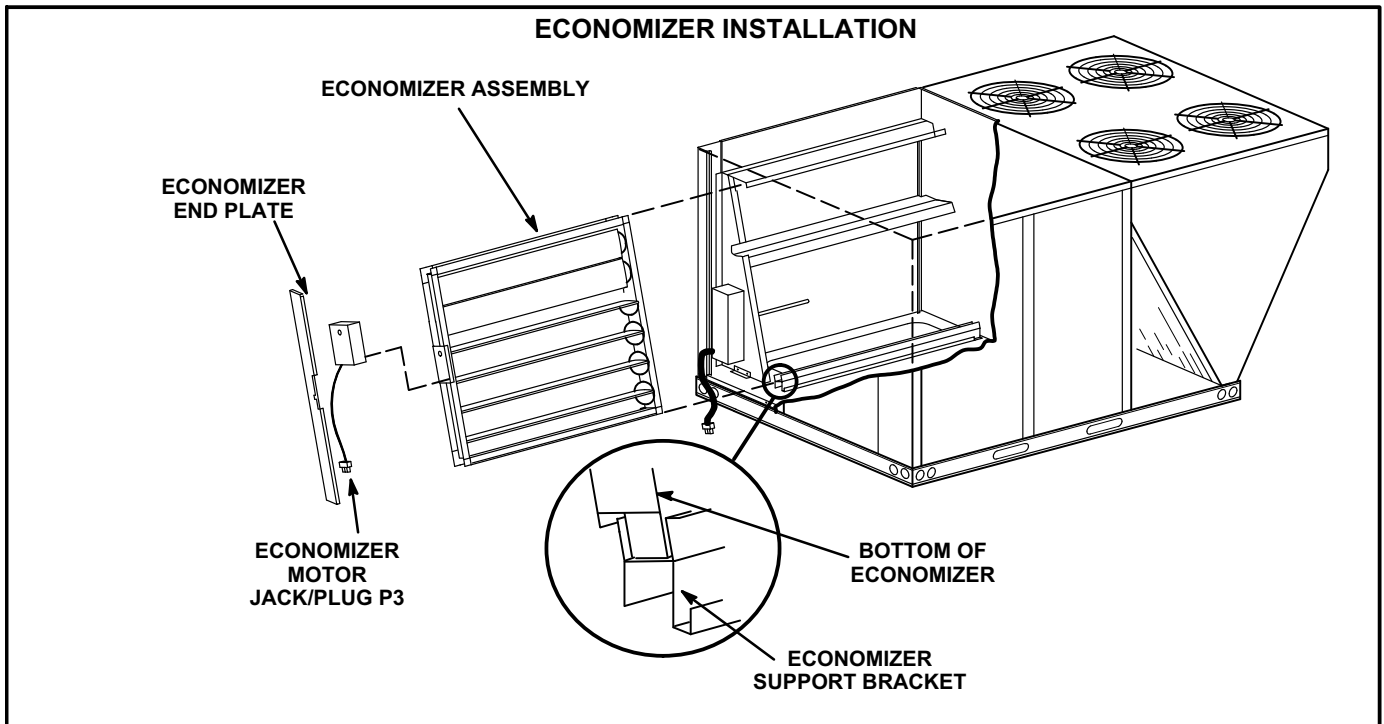
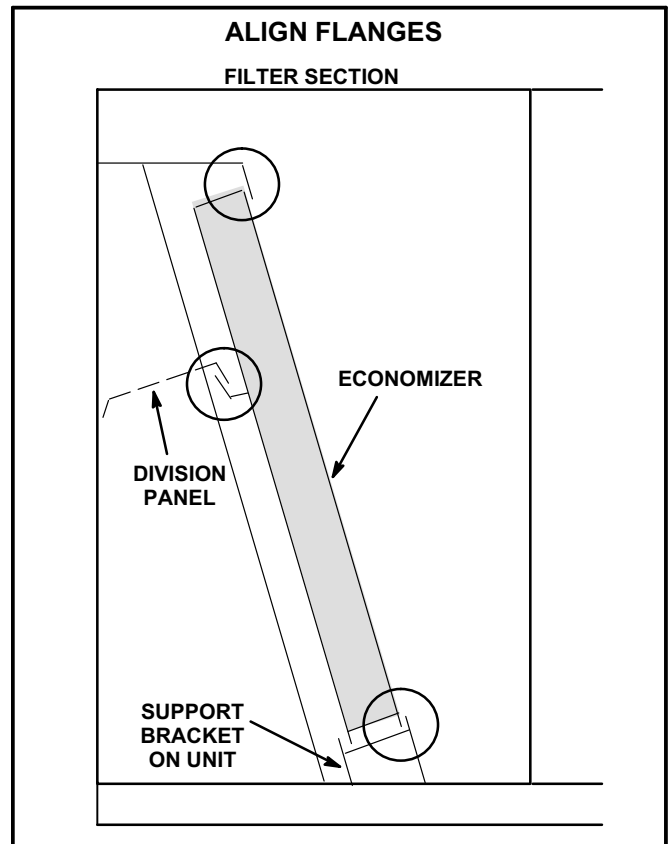

FIGURE 12
FIGURE 13
- 3- Align bottom of economizer with economizer support bracket and slide economizer into unit. See figure 12. Make sure the flanges align as shown in figure 13.